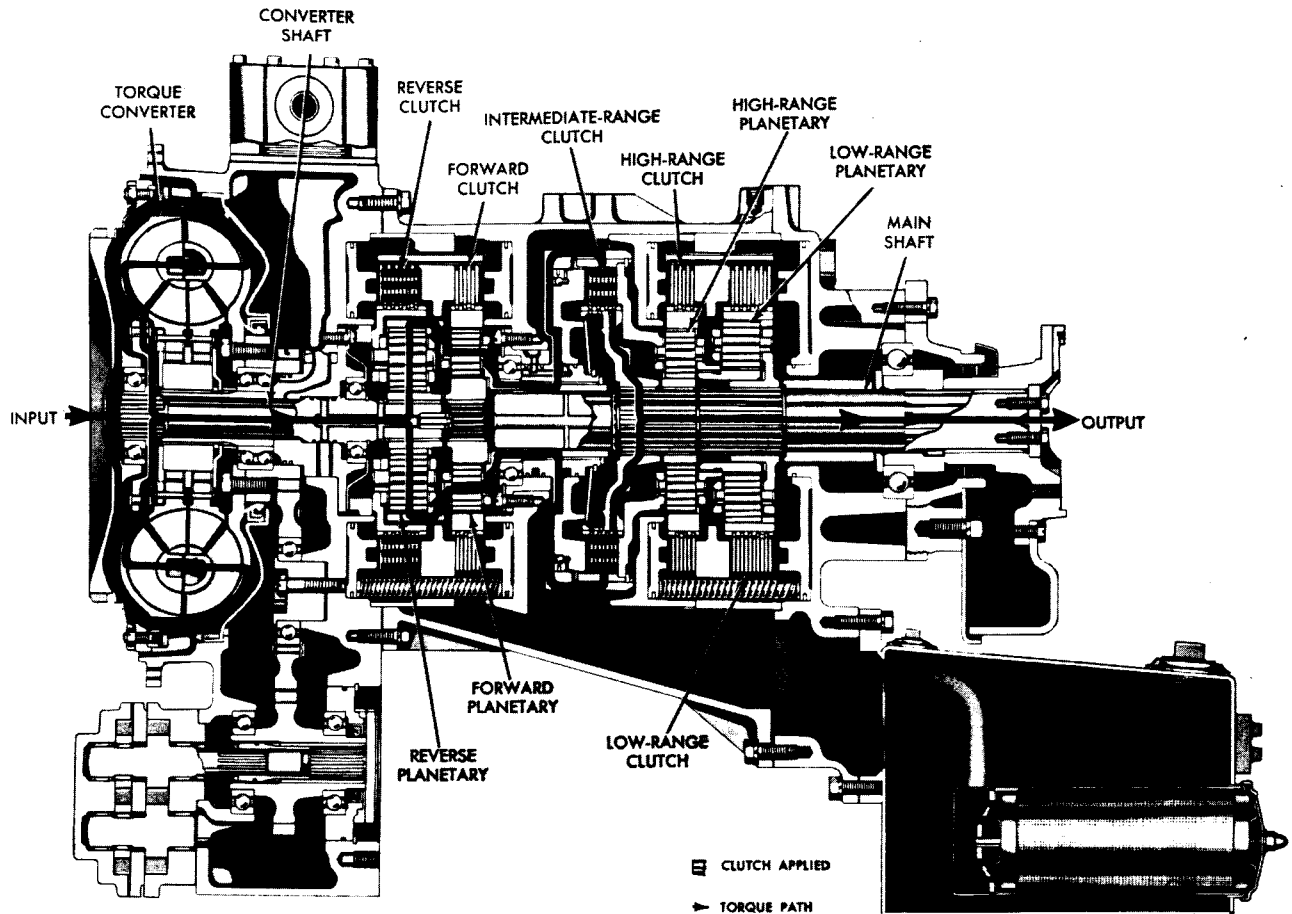

Fig. II-6. Reverse, intermediate-range—torque path (CRT 3331-3)
28. REVERSE, INTERMEDIATE RANGE — TORQUE PATH (fig. II-6)